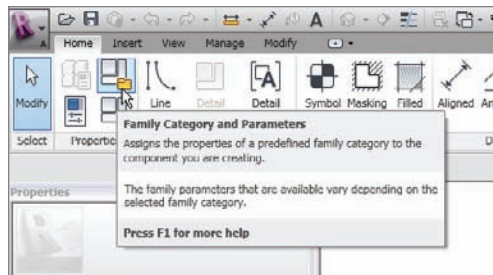

FIGURE 11.76 The Family Category And Parameters button
2. Click the Family Category And Parameters button, as shown in Figure 11.76.